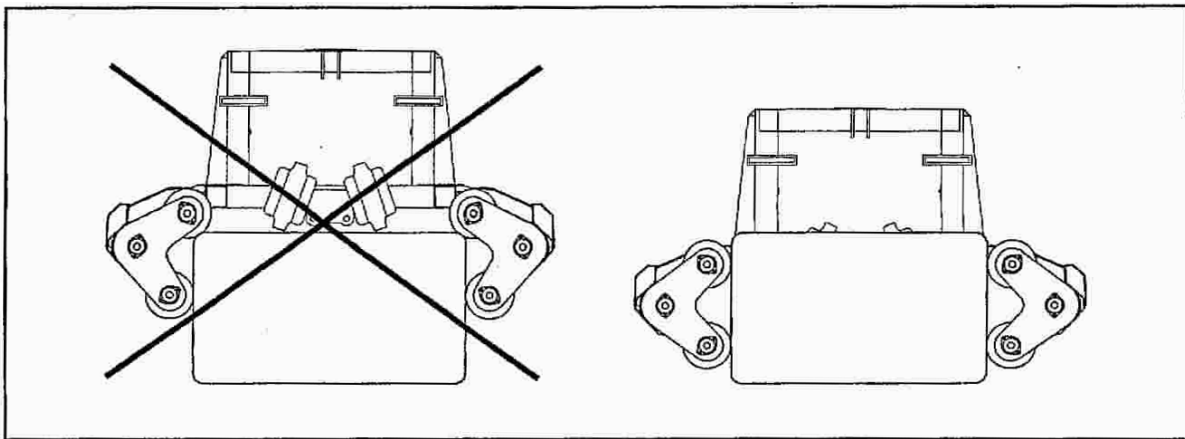

Fig.10-5
- a) When loading small square bales it is important to lower the rollers as close to the ground as possible. This to make all four rollers to get a grip on the side of the bale. If two of the rollers come over the bale, the machine will not be able to load it. (See fig. 10-5). If necessary, adjust the position of the rollers by means of the limiting chains. (See section 10.1.)